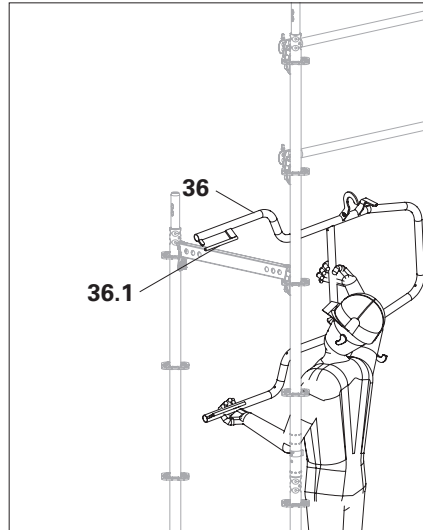

Fig. A5.14a
1. Suspend the end guardrail in advance (36) above the crossbar. The pegs (36.1) must point towards the outer side of the scaffolding. (Fig. A5.14a)